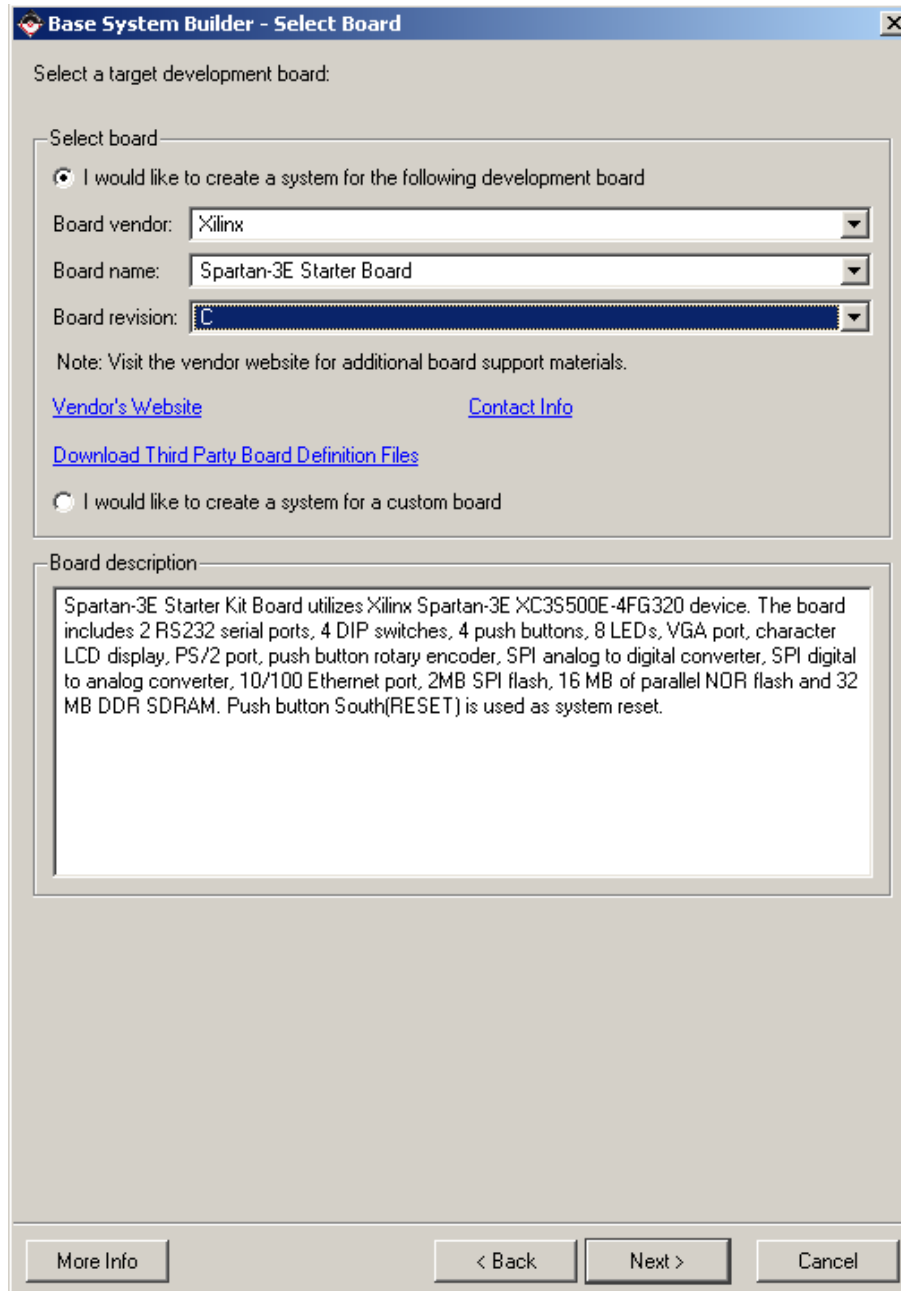

Figure 2: BSB: Select a Board
- In the Base System Builder - **Select** Board Dialog select the following, as shown in Figure 2: